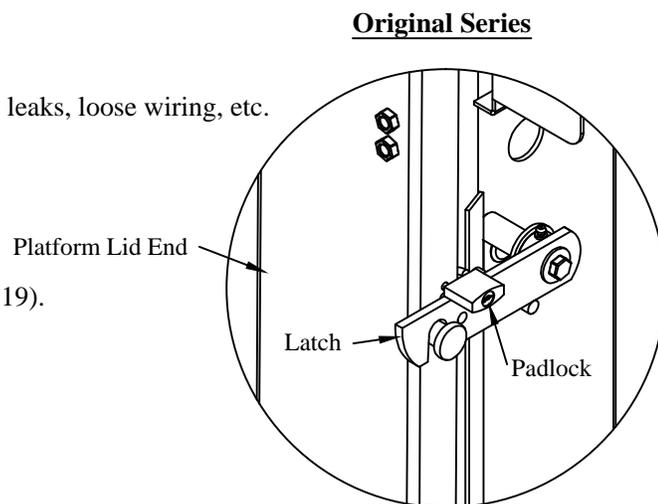

Figure 19: Padlock location.
10. **Lock** the padlock through the hole in the platform or latch pin (Figure 19).